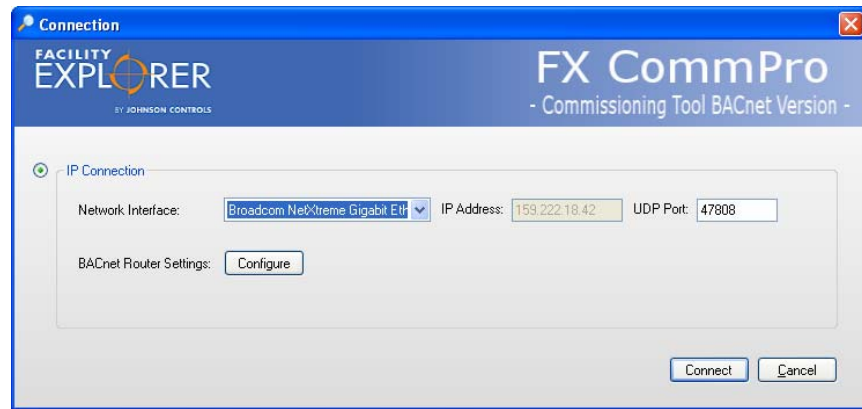

Figure 23: Connection Window
- Click the Open Connection. The Connection window appears (Figure 23).